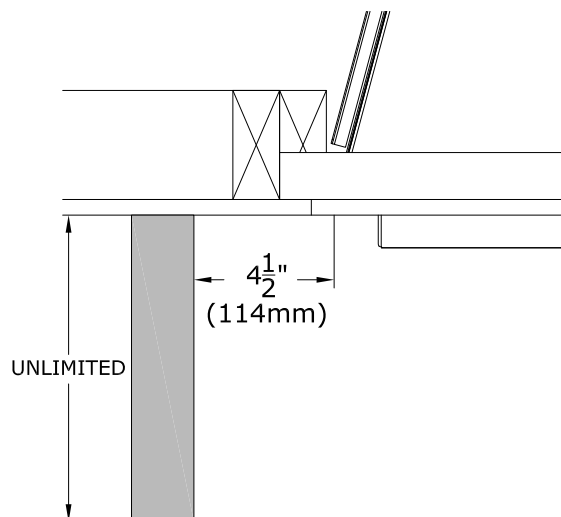

Figure 4.5 - Combustibleside Wall Projection
- **Mantel Leg:** Follow "Side Combustible Clearance" below. See FIGURE 4.5.
- **Combustible Sidewall Clearance:** the adjacent sidewall projection is unlimited and starts at 4-1/2" (114mm) from the side of the fireplace. See FIGURE 4.5.